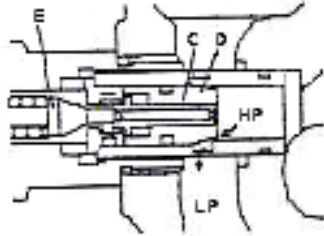

Figure 2-52
(2) Action of safety overflow valve (Figure 2-52)
Self-locking tilt valve is mounted in the tilt cylinder valves. The self-locking valve could prevent sudden fall of the main frame when negative pressure occurs in the cylinder and also eliminate dangers if the valve rod is tilted due to misuse. With this self-locking valve, when forklift motor stops working, the main frame will not tilt forward even if the control lever is shoved. Oil flow direction when valve core is pulled out is the same with that shown in Figure 2-52, at which time the main frame is tilting backwards.